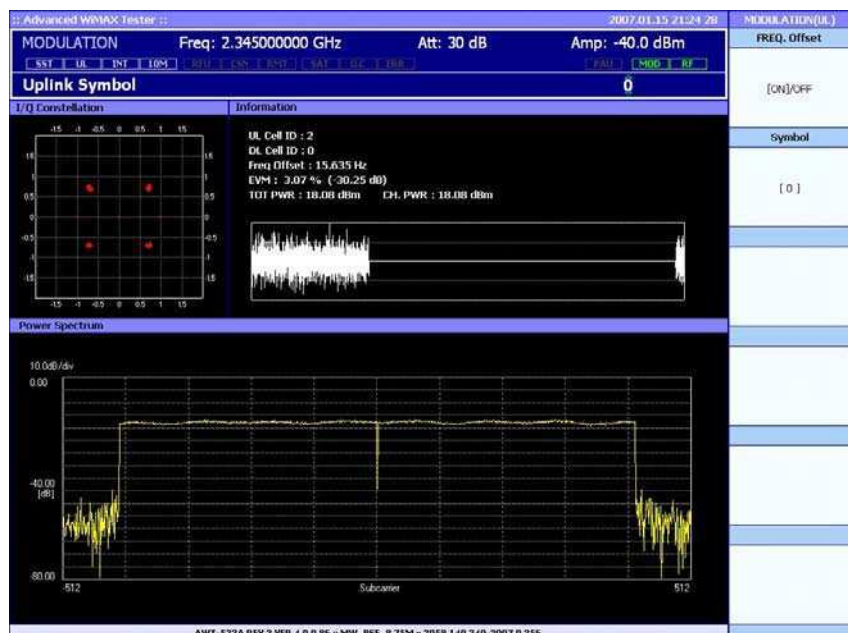

Figure 13 Uplink Test Modulation Analysis Window
- 3 Perform Modulation Analysis:** While the Uplink Test is in progress, the Test Set can analyze the uplink signal's quality and performance. Press **Measure** on the Front Panel, followed by **Modulation** in the **Selection** Menu. The **“Uplink SYNC Detection”** message is displayed, indicating that uplink synchronization processing is in progress. When this process is complete, the Measurement Window in Figure 13 is displayed. Refer to **“Signal Analyzer Mode”** on page 57 for more details of analyzer functions.